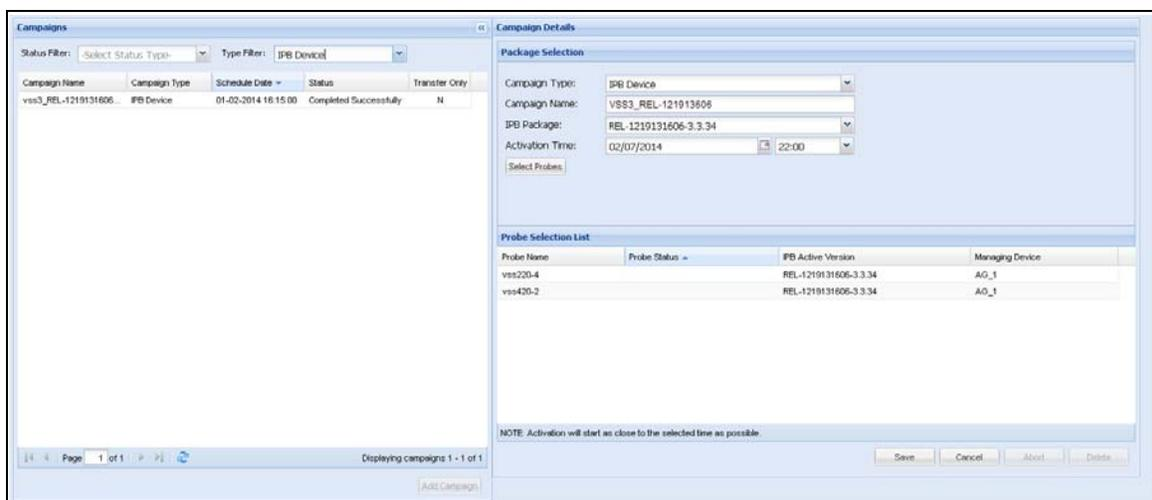

Figure 5.1 - Probe Campaigns Tab - IPB
1. Click the **Software** tab, and then click the **Probe Campaigns** tab. The Campaigns pane appears (Figure 5.1).